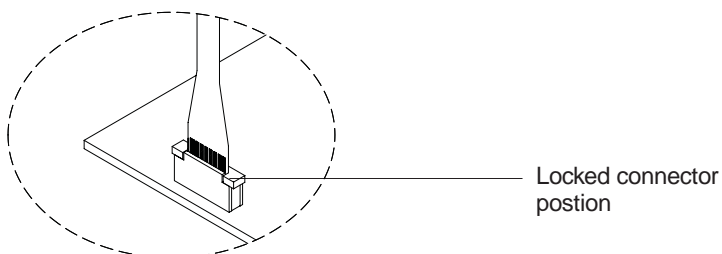

Figure 51. Locked connector position
1. Pull up on the connector holder to unlock the cable (see Figure 51 on page 52).
3. Push down on the connector holder to lock the cable in place (see Figure 51).